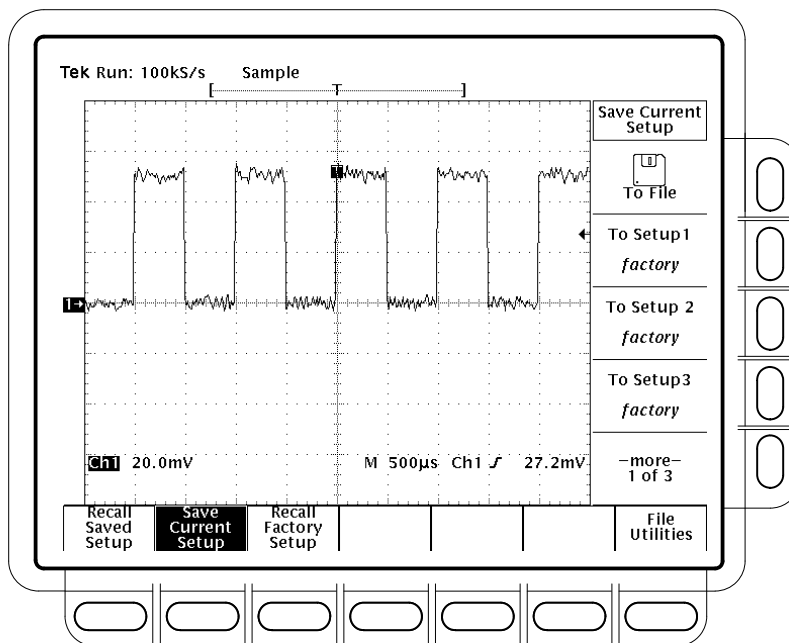

Figure 3–61: Save/Recall Setup Menu
2. To store to a setup internally, choose one of the ten internal storage locations from the side menu **To Setup 1, To Setup 2, ...** (see Figure 3–61). Now the current setup is stored in that location.